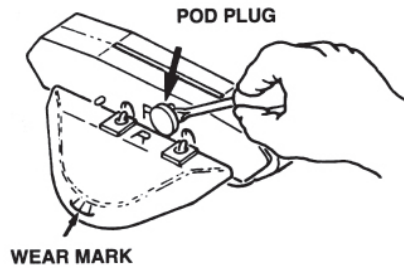

Figure 9
**1. Check the condition of the “shoes, wings and flaps” periodically.** The shoes and wings have wear indicators on their sides and should be checked occasionally to determine if they need replacing. The shoe wear indicator is a line on the side of the shoe that appears as a difference in texture. When this texture difference is no longer visible at the bottom of the shoe when viewed from either side, the shoes must be changed (see Figure 8). Also on the side, the wing wear indicator is a horizontal line which has three (3) vertical lines above it. When you can no longer see the horizontal line, the wings must be changed (see Figure 9). The Hayward **Navigator Tune-Up Kit** is available from your dealer. Shoes, wings and flaps may also be purchased separately.
- Using a screwdriver, remove the plugs from both pods (see Figure 9).